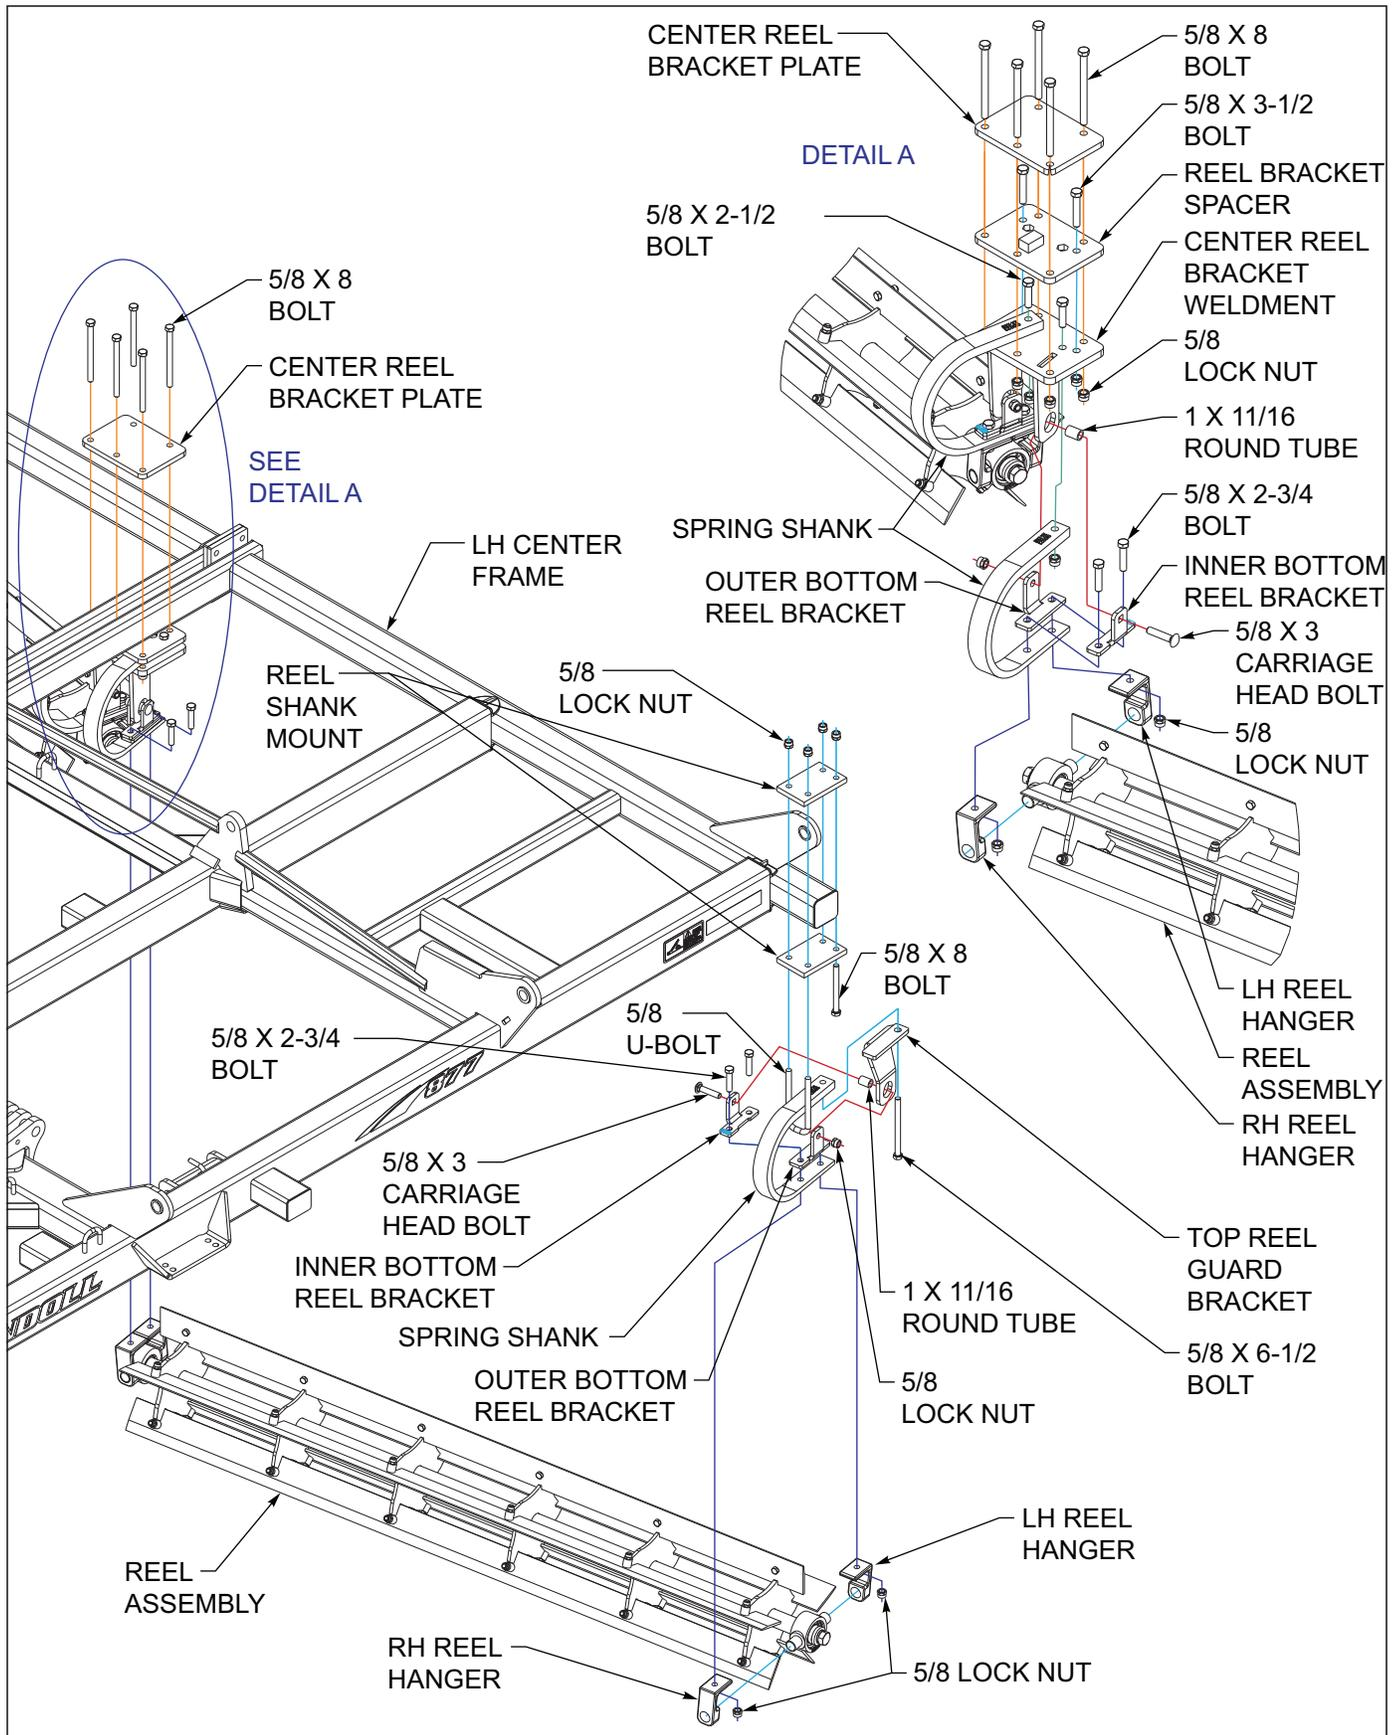

Figure 3-28: Reel Assembly
- b. The inner reel bracket (with square hole) must be placed toward the reel blades See Figures 3-28.
- h. Carefully lift reel assembly and loosely bolt top reel bracket plate to frame as shown in See Figure 3-28 using 5/8 x 8 bolts and 5/8 lock nuts See Figures 2-13 through 2-18 for location on frame.
- a. Set inner bottom reel bracket on top of outer bottom reel bracket and loosely attach to top reel guard bracket using 5/8 x 3-1/4 round head square neck screw, round tube spacer, and hex lock nut. The inner reel bracket (with square hole) must be placed toward the reel blades See Figure 3-28.